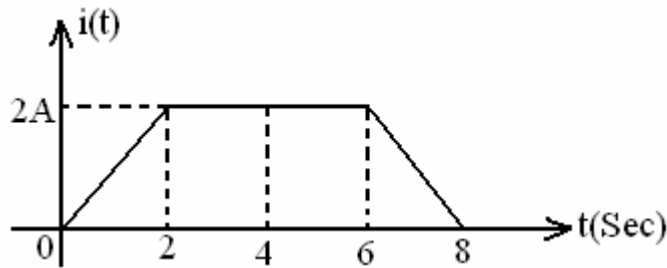

Figure 1
- 1.a) An inductor of inductance 2H is supplied with a current wave form shown below in Figure 1. Draw the waveforms for voltage and energy in the inductor.